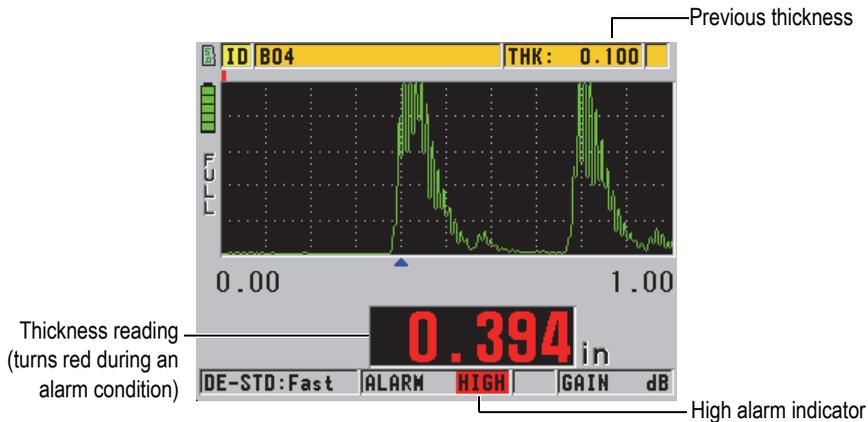

Figure 7-4 Example of a HIGH alarm indicator (shown with the Waveform option activated)
- The **HIGH** or **LOW** alarm indicator flashes with a red background at the bottom right corner of the measurement screen (see Figure 7-4 on page 128).